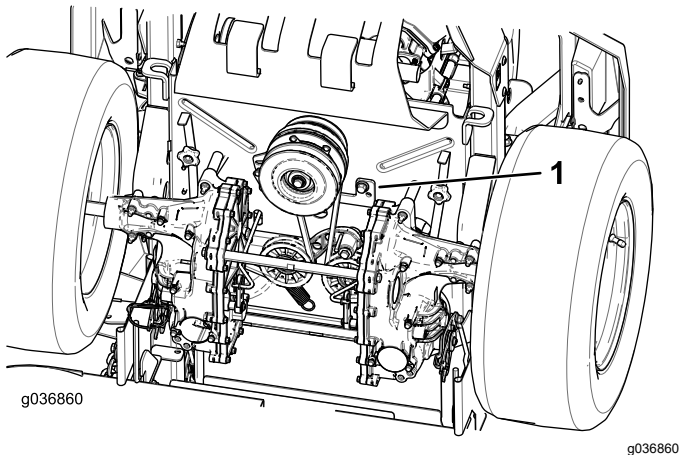

Figure 78
5. Remove the clutch stop (Figure 78).
9. Install the clutch stop (Figure 78).